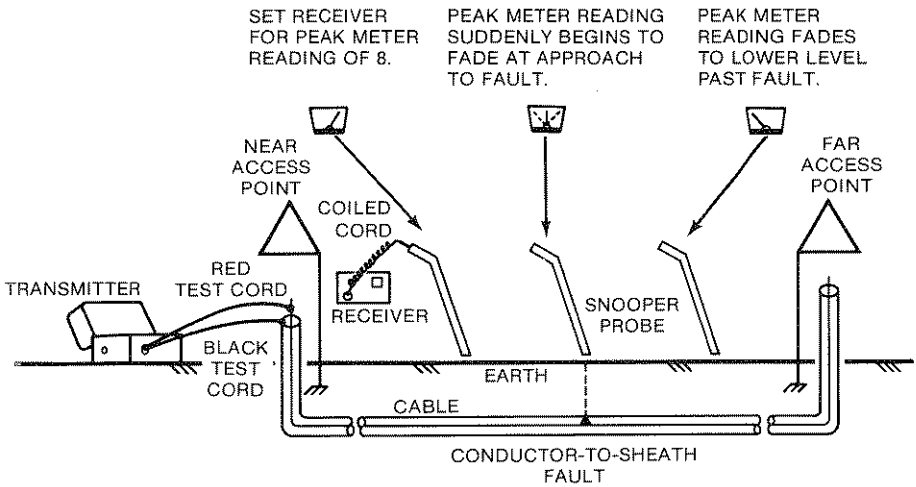

Figure 5-3.
4. Plug the jack end of the red/black test cord into the RED/BLACK TEST CORD jack receptacle on the transmitter (see Figure 5-3).
The type of fault found in aerial coaxial cable is the conductor-to-sheath fault. You will use the transmitter hookup shown in Figure 5-3. For detailed instructions on how to locate aerial cable faults refer to Section 3, page 70, HOW TO LOCATE FAULTS IN AERIAL TELEPHONE CABLE.